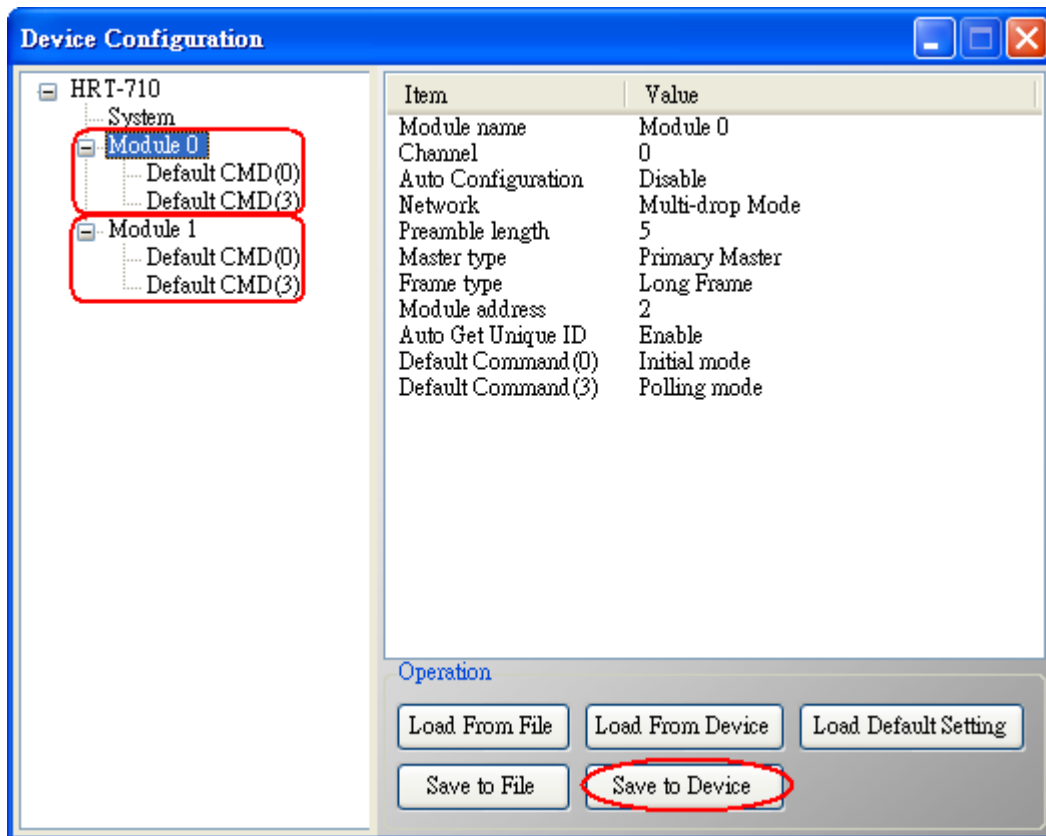

Figure 1-7 “Save to Device” function
(1) Click the "Save to Device" button to save the new HART device setting to HRT-710 like Figure 1-7.